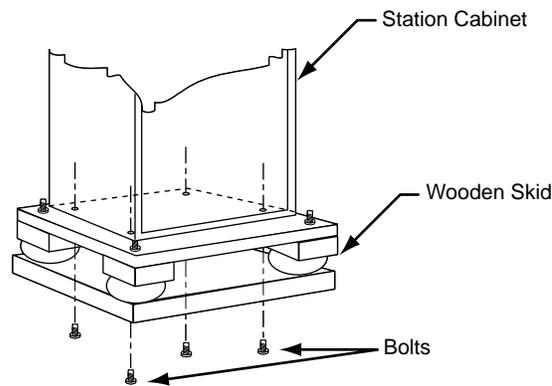

Figure 4-4: Removing the Bolts and Nuts
7. Locate the four (4) bolts that secure the station to the wooden skid. Remove the bolts and nuts (see Figure 4-4).